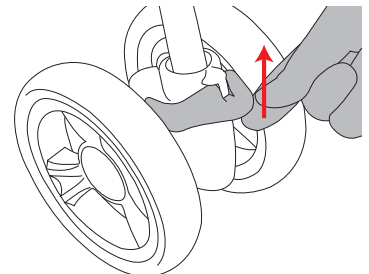

Figure 10
- To put each front wheel set into its locked mode, push up on the locking tab located at the top of the wheel housing and between the wheels. Be sure to lift the locking tab all the way up until an audible click is heard. See Figure 10.